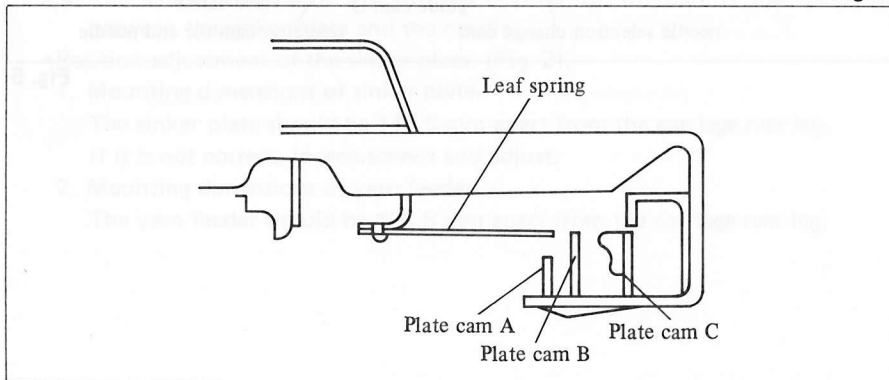

Fig. 7
- 2-1. By referring to Fig. 7, adjust the tip of the leaf spring to the same level as that of the plate cam B.